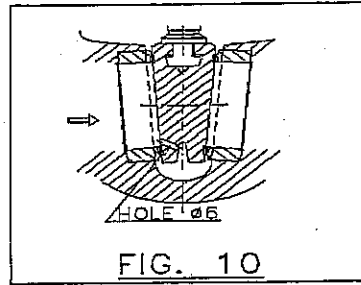

FIG. 10
- *Figure 10* ► it represents a valve with hole on wedge to balance the pressure between the body of the valve and the upstream arrival side. In this case the valve becomes unidirectional.